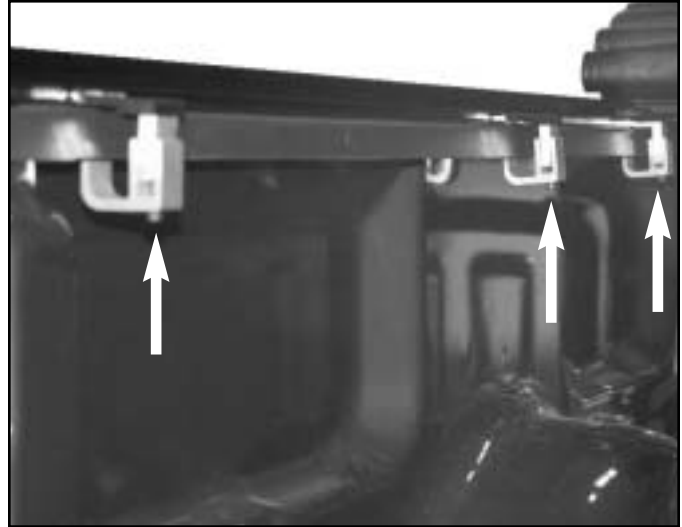
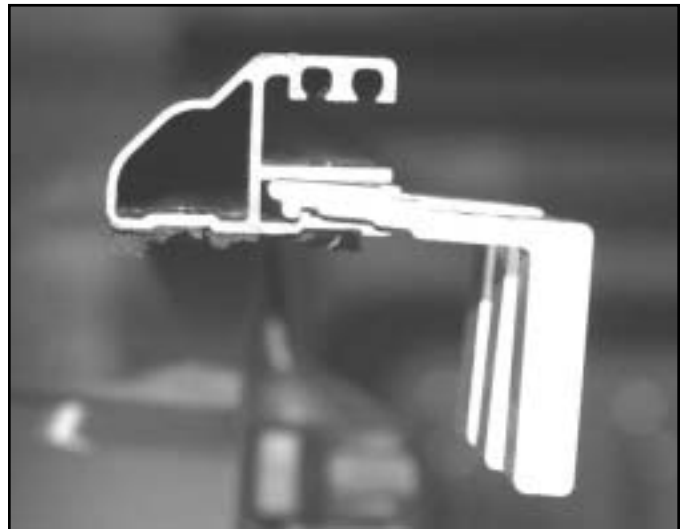

Figure S-55
Figure S-56
2. Remove the six (6) clamp arm fastener screws and lower clamp arm jaws. See figure S-55.
5. Drill out the three (3) rivets on each end cap and track.
6. Remove the end caps from the tracks. See figure S-56.
25. Install the six (6) lower clamp jaws and clamp arm fastener screws. Refer back to figure S-55.
26. Tighten the six (6) clamp arm fastener screws. Refer back to figure S-55.